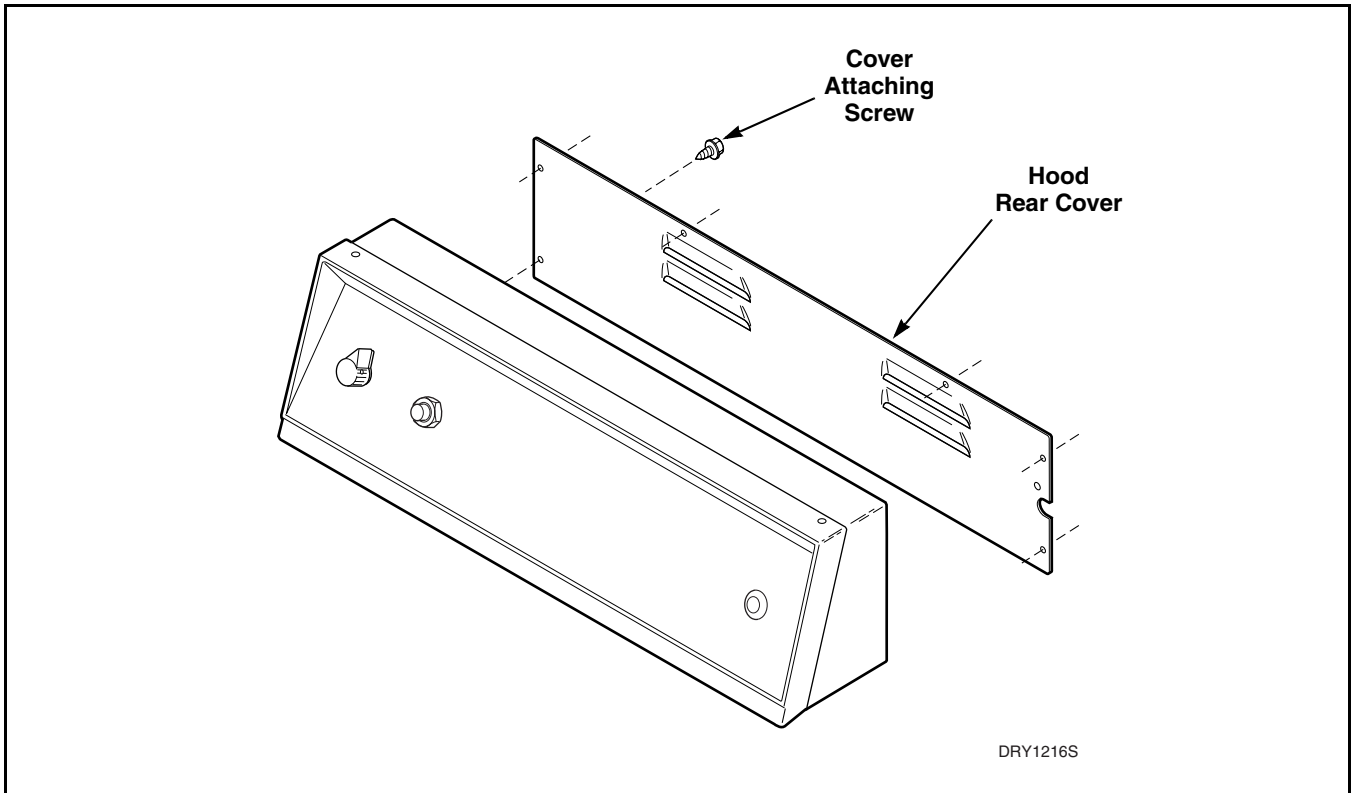

Figure 22
- a. Refer to *Figure 22* or *23* for removal.